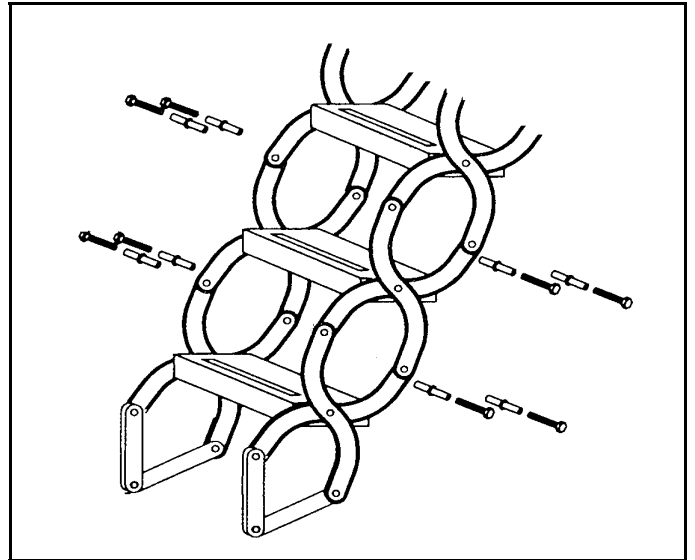

Figure 13
2. Add one or both steps as required by reinserting sleeves, washers and bolts. Figure 13. (Additional hardware is provided with extra steps).